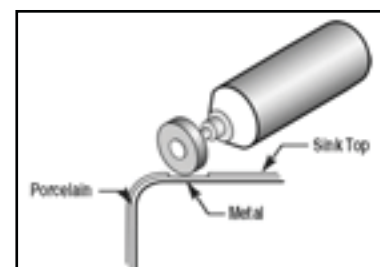

Figure 7: Grinding Wheel
- B. Grind away a 1-1/4-inch diameter circle in the porcelain using a silicon/carbide wheel and high-speed grinder (See Installation Tool List), down to the metal surface of the sink. (See Figure 7)